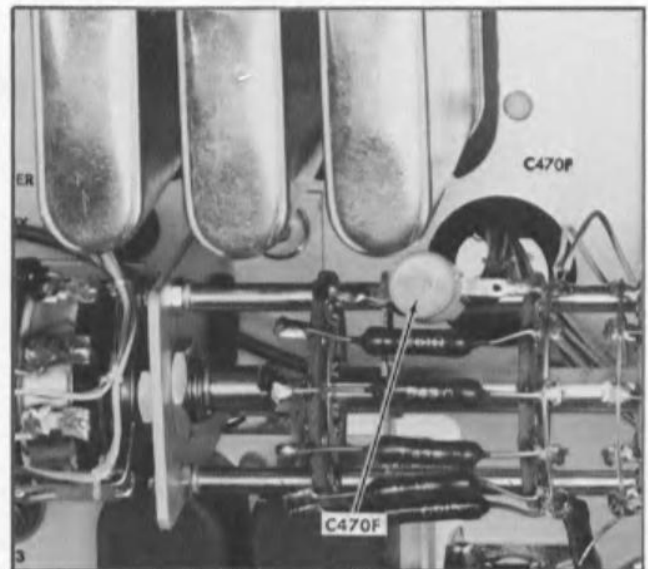

Fig. 6-21. Location of C470F.
- c. Remove the cover from the left side of the Type 561A to gain access to C470F, on the left side front of the Type 2A61. See Fig. 6-21.
- j. Adjust C470F, Fig. 6-21, for the best square wave response. Correct adjustment of C470F, is shown in Fig. 6-22A. Incorrect adjustment of C470F is shown in Fig. 6-22B.